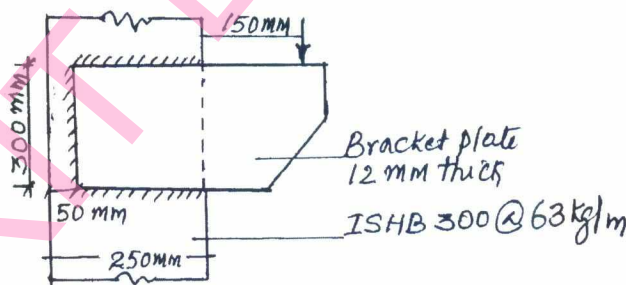

Fig. Q3 (b)
b. Calculate the factored load that can be supported by bracket connection shown in Fig. Q3 (b) Take size of weld as 6mm. (14 Marks)